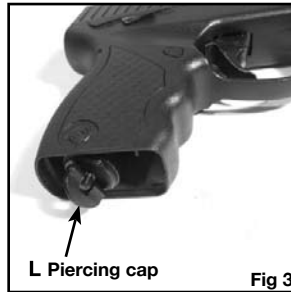

Fig 3
- L. Piercing cap (See Fig. 3)
- Turn the piercing knob cap counter-clockwise and remove (Fig. 3).